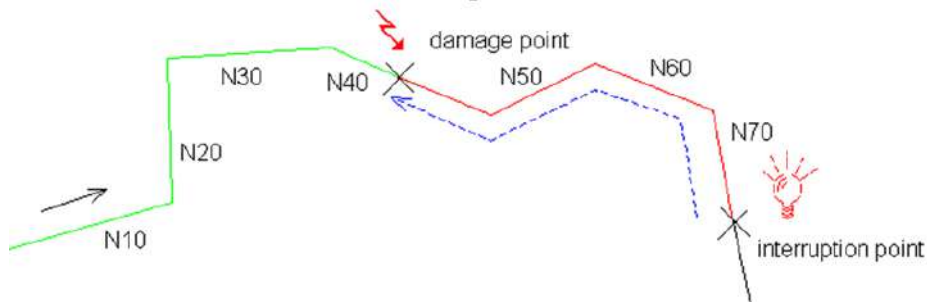

Figure 15
- The part program must be stopped by operator by pressing **NC Stop** button first (as **N70** interruption point in **Figure 15**). When NC Stop button is pressed the described operations in **NC Stop** section are repeated.
- To return back into the contour “**NC Start**” button must be pressed by operator. After pressing the head is moved back at current block on retract position by using the automatically created inverted NC blocks (as throughout **N70 - N60 - N50 - N40** points in shown **Figure 15**).
- In this movement the operator must be noticed where the bad cutting was started and he must be stopped the movement with **NC Stop** button before beginning of damaged point (Before the **N40** point in shown **Figure 15**).